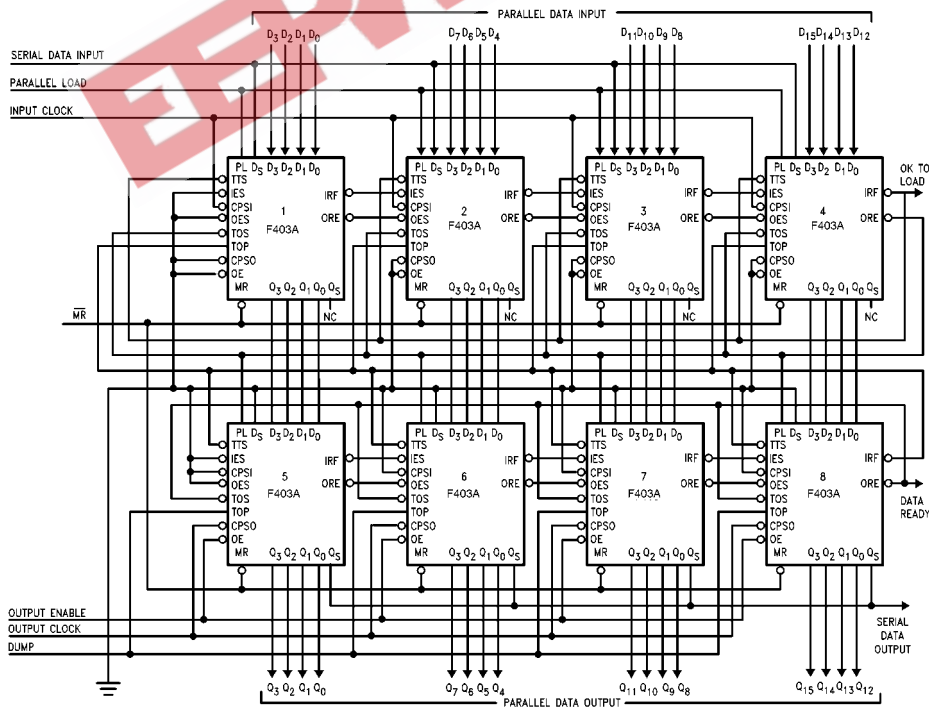
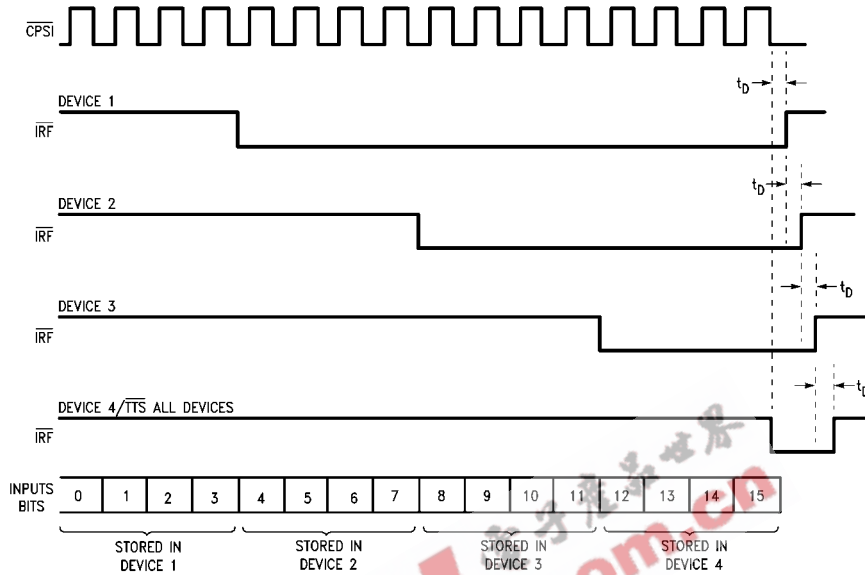
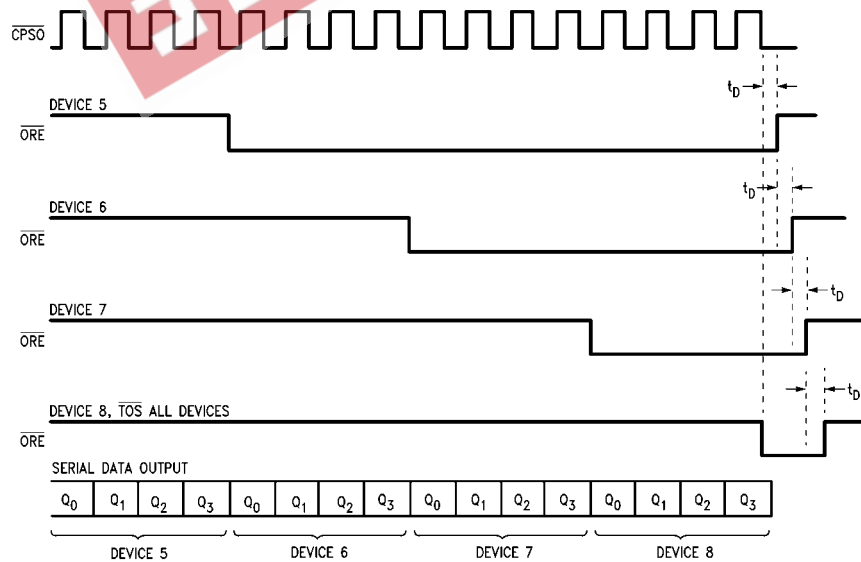
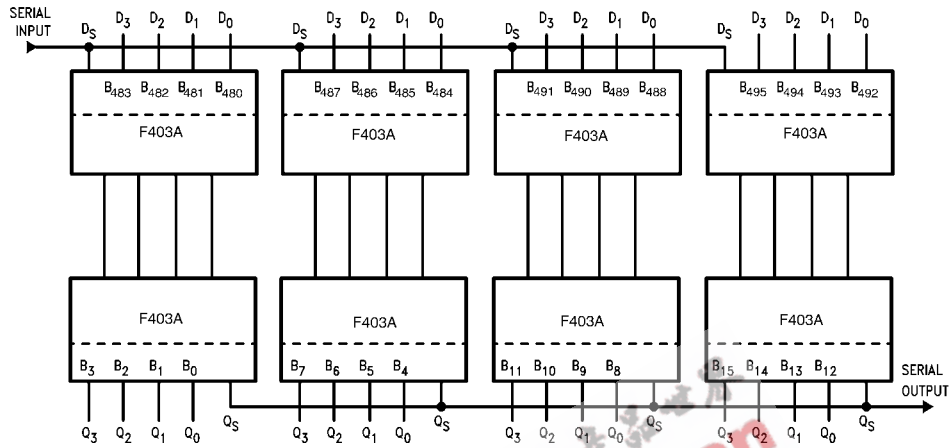

FIGURE 6. A 31 x 16 FIFO Array
FIGURE 7. Serial Data Entry for Array of Figure 6
FIGURE 8. Serial Data Extraction for Array of Figure 6
FIGURE 9. Final Position of a 496-Bit Serial Input
**Horizontal and Vertical Expansion—** The 74F403A can be expanded in both the horizontal and vertical directions without any external parts and without sacrificing any of its FIFO's flexibility for serial/parallel input and output. The interconnections necessary to form a 31-word by 16-bit FIFO are shown in Figure 6. Using the same technique, any FIFO of  $(15m + 1)$ -words by  $(4n)$ -bits can be constructed, where  $m$  is the number of devices in a column and  $n$  is the number of devices in a row. Figure 7 and Figure 8 show the timing diagrams for serial data entry and extraction for the 31-word by 16-bit FIFO shown in Figure 6. The final position of data after serial insertion of 496 bits into the FIFO array of Figure 6 is shown in Figure 9.
In the 74F403A array of Figure 6 devices 1 and 5 are defined as "row masters" and the other devices are slaves to the master in their row. No slave in a given row will initialize its Input Register until it has received LOW on its IES input from a row master or a slave of higher priority.